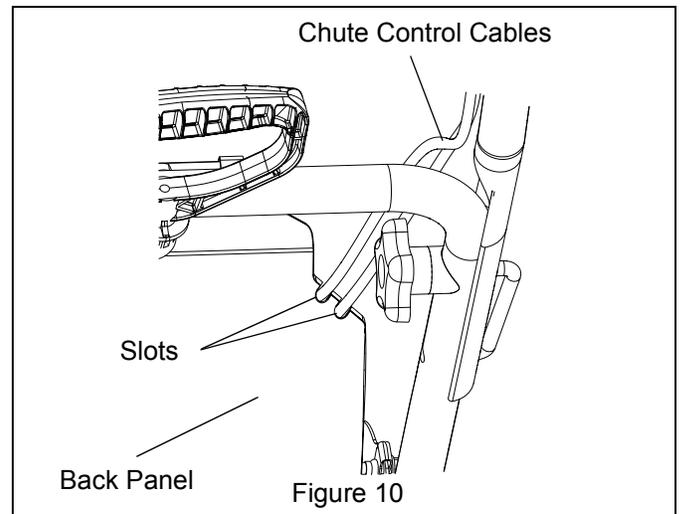

Figure 10
10. Route chute control cables through slots in back panel. See Figure 10.